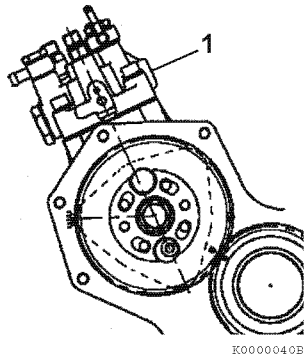
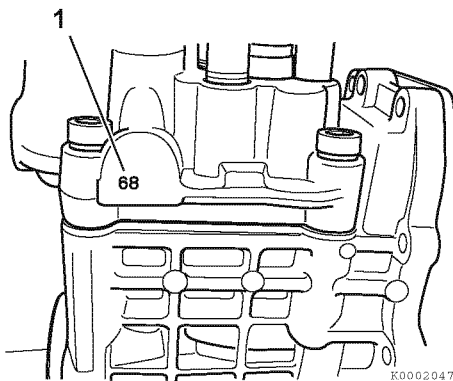

Figure 7-38
Figure 7-39
1. Locate and record the fuel injection pump timing index number (Figure 7-39, (1)) stamped into the boss on the engine side of the fuel injection pump housing (Figure 7-38, (1)). Treat this number as though there is a decimal point between the two digits. i.e. 68 = 6.8